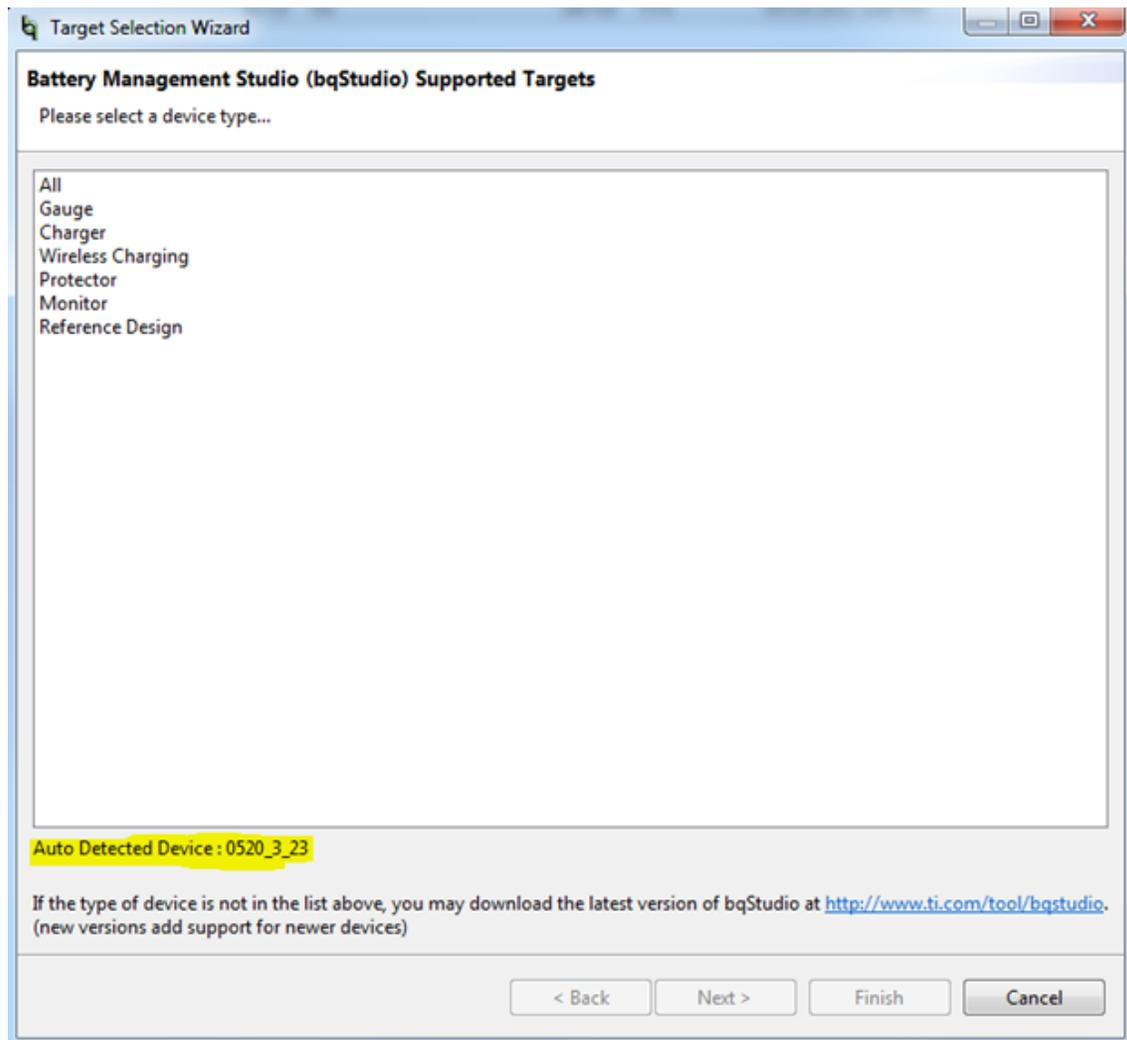
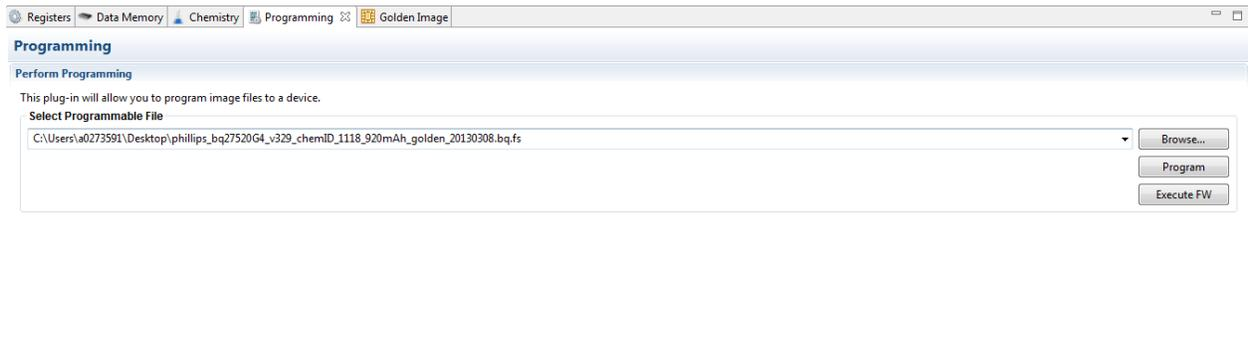

Figure 2. Non-auto detection of device firmware by bqstudio
Figure 3. Programming the firmware on the gauge using bqstudio
Upon startup of bqstudio, the device should be automatically detected. If that isn't the case, and a screen as seen in Figure 2 with a number shown other than 0520_3_29 (this is the latest firmware version), then you need to update the firmware on the IC using the default firmware downloadable from here. See Figure 3
- - Select gauge from the device type as shown in Figure 2 . Then select the 0520_3_29-bq27520G4.bqz from the next window that pops up.
- - Then go to the programming window as shown in Figure 3 and browse to where the srec is stored on your computer. Select it, and then hit the program button. This process will update the firmware on the chip.